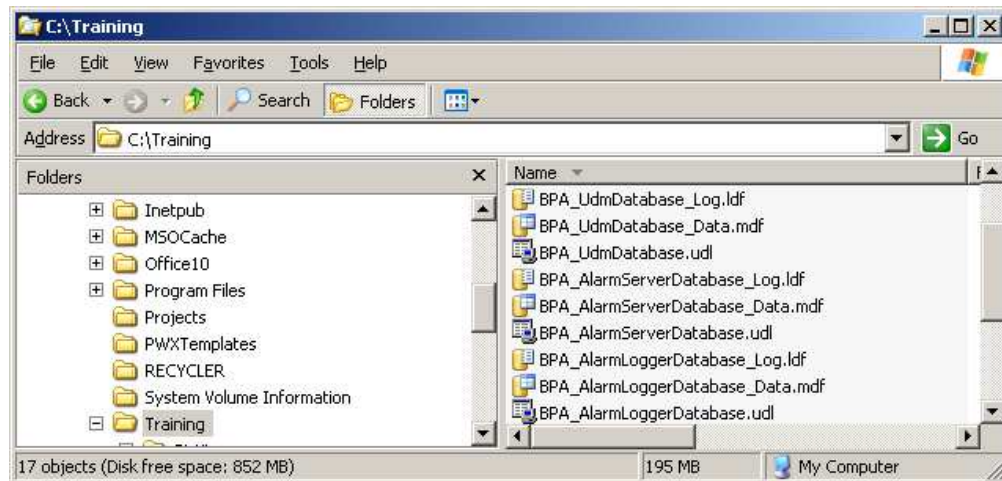

Figure L2.8 - List of Database Files and UDL Files in the Training Folder
14. When you are done, you should see list of files shown in C:\Training as shown in Figure L2.8.